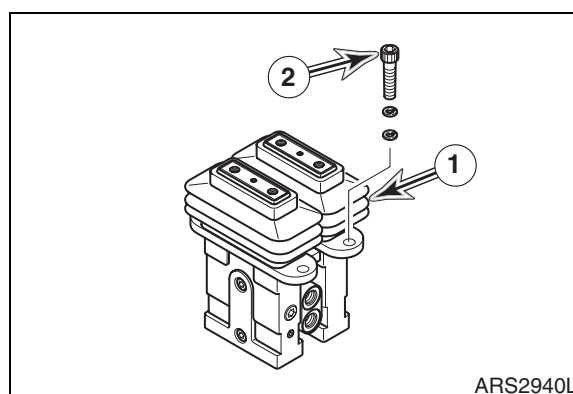

Figure 8
12. Tag and disconnect hoses from pedal valve (1, Figure 8). Plug and cap hoses and ports to prevent contamination from entering hydraulic system or component.